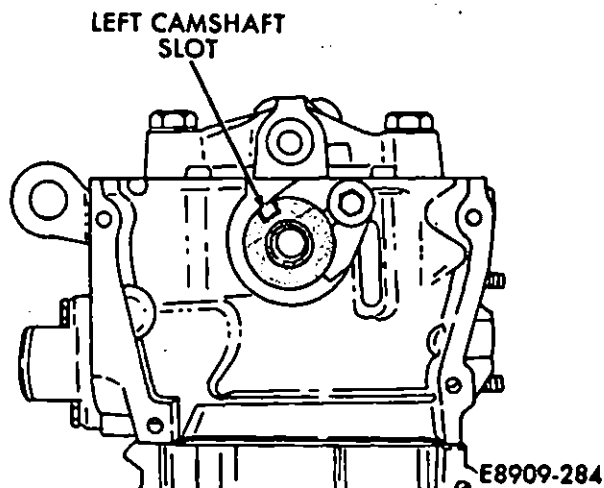

Fig. 10—Position of Left Camshaft Slot
(8) Turn the left camshaft until the slot in the front is positioned as shown in (Fig. 10).